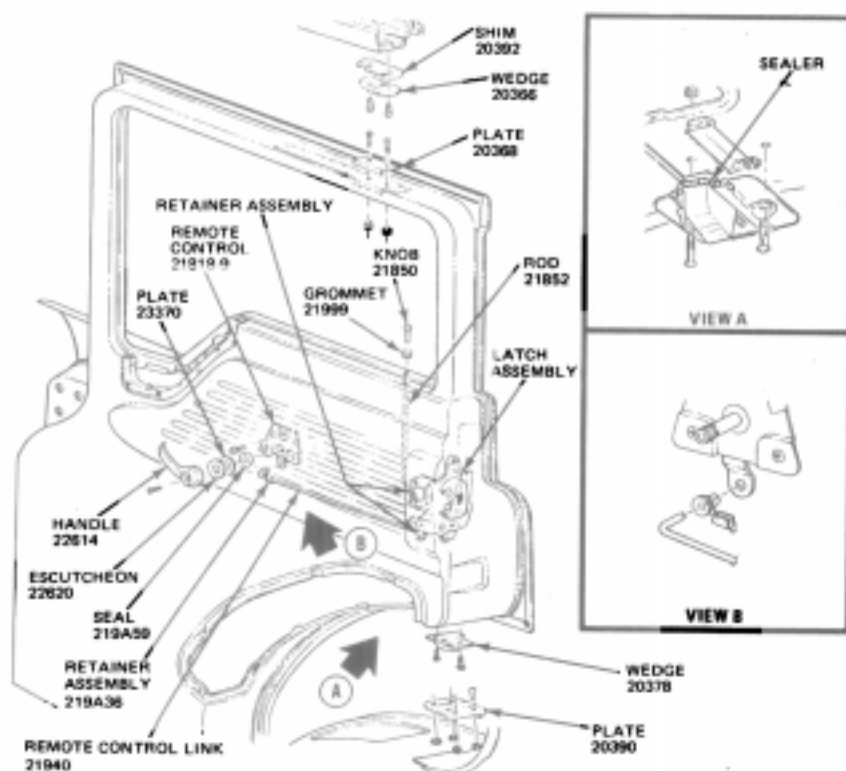

FIG. 4 Door Latch Installation—C-Series
2. Disconnect the remote control link and the push button rod (Figs. 4 through 8) from the latch assembly.